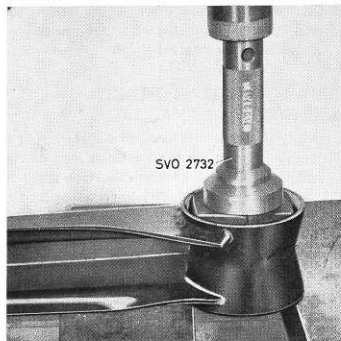

Fig. 7-10. Removing (and fitting) front bush, support arm
4. Press out the front bush with tool 2732. Coat the new bush with oil and press it in with the same tool according to Fig. 7-10. Make sure that the plane sides of the bush are at right angles to the support arm shaft (Fig. 7-10).